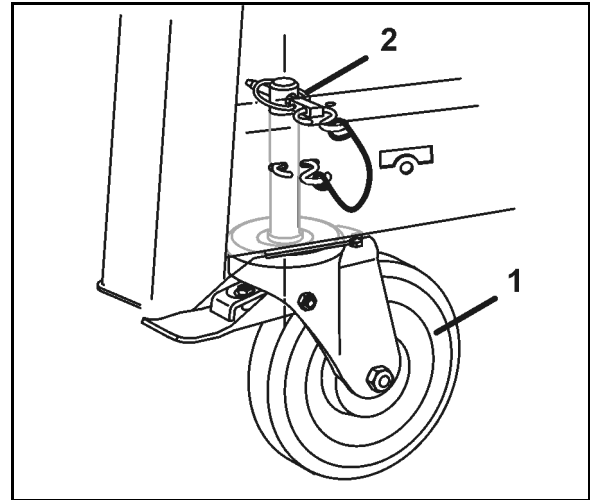

Fig. 43
5. Steerable brake rollers (Fig. 43/1), front
- o Install and secure with clip pin (Fig. 43/2)